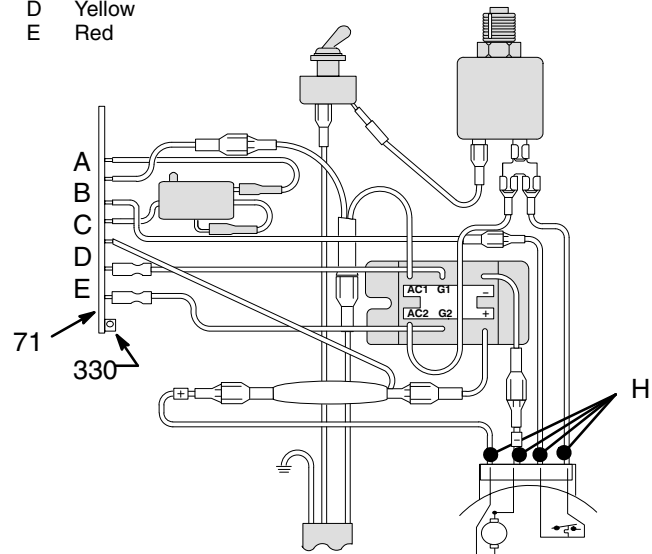
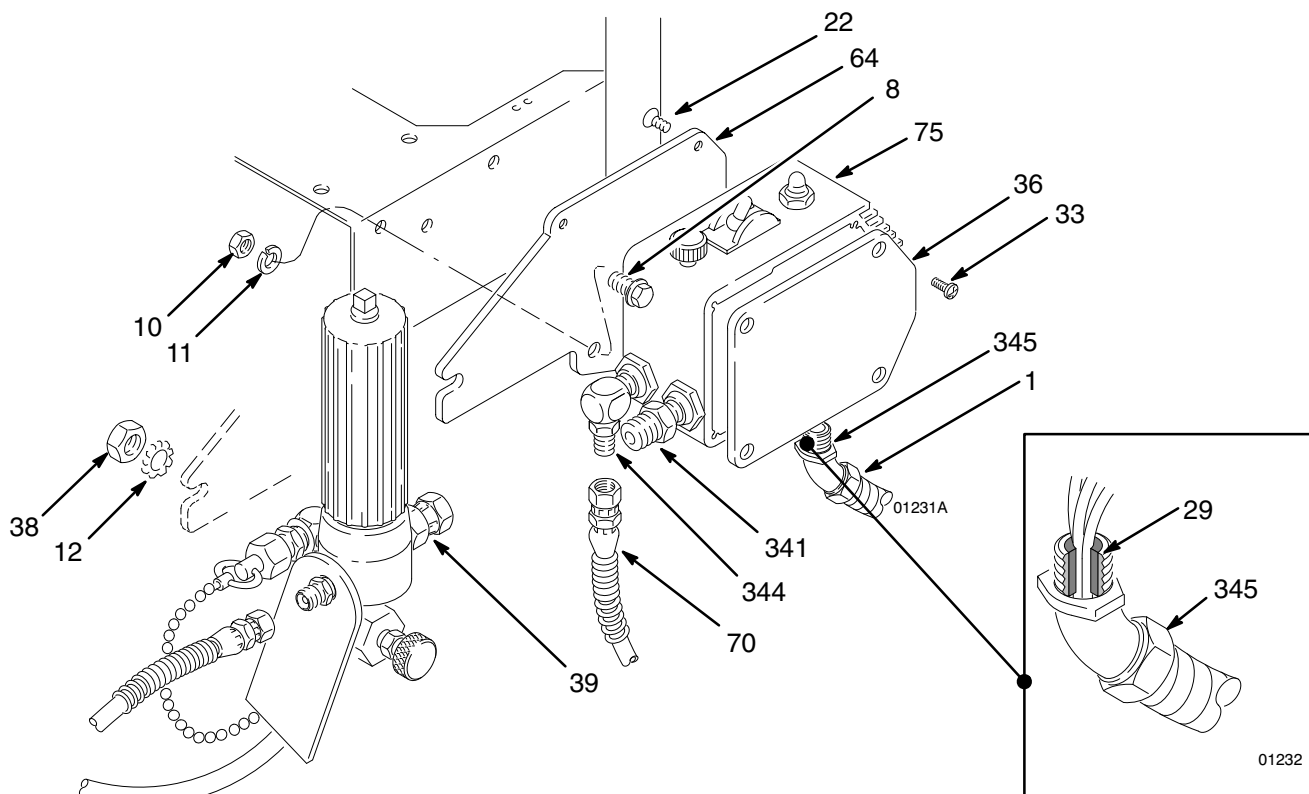

Fig. 19
Fig. 20
**NOTE:** Refer to Fig. 20 for this procedure.
2. Disconnect the hose (70) at the pressure control.
3. Loosen the nut (38).
4. Hold the hex of the adapter (341) firmly with a wrench. Use an adjustable wrench to unscrew the swivel union (39). Remove the fluid filter (66).
5. Remove the screws (36) and cover (63). Disconnect the four motor leads. See Fig. 19.
7. Remove the conduit (1).
8. Remove the three screws (8), lockwashers (10) and nuts (11). Remove the pressure control.
9. Remove the screws (22) and the bracket (64).